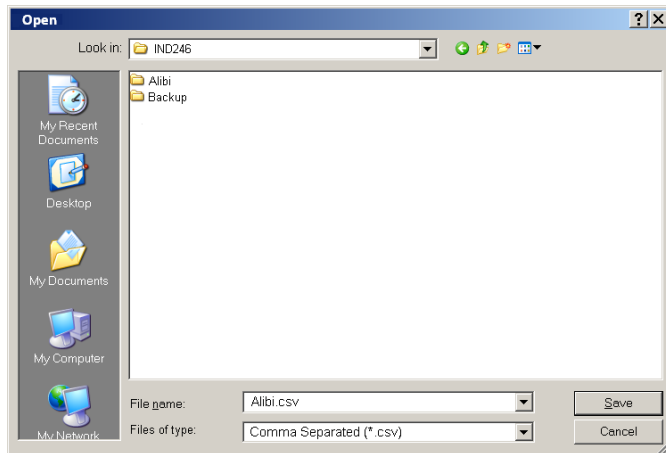

Figure 3-9: Windows Explorer "Open" dialog
- Click **cancel** to abort this process, or click **Open** to keep the information entered and return to the **Write to Terminal** dialog. See Figure 3-9.